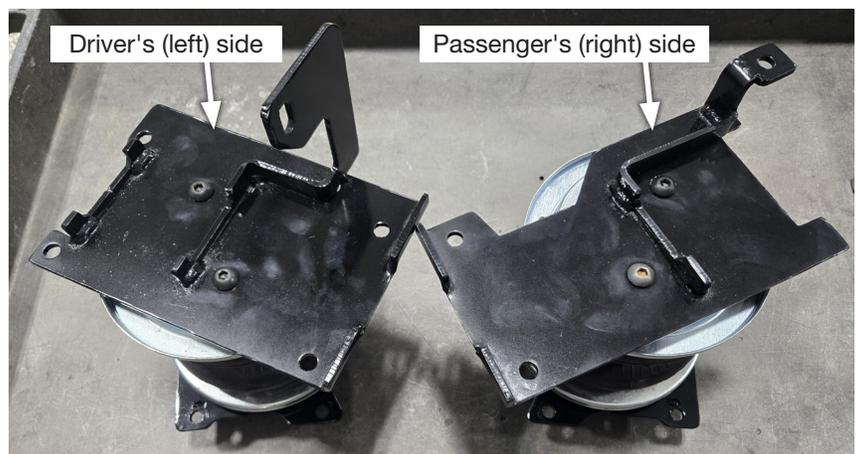

Fig. 10
- Figure 10 shows both the driver's (left) and passenger's (right) side lower air spring assemblies.